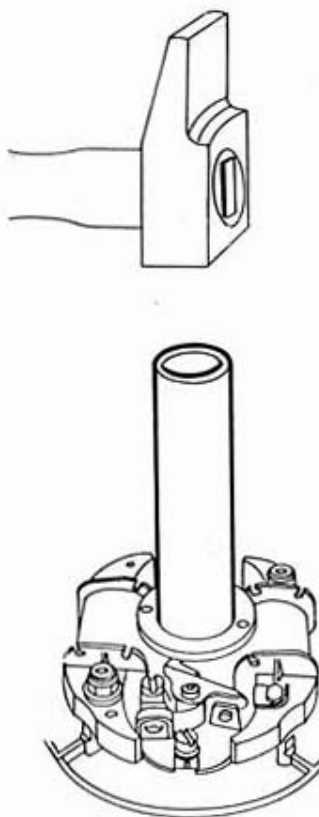

Fig. 3
- Tap the timing cam onto the crankshaft without rotating it any further (fig. 3).